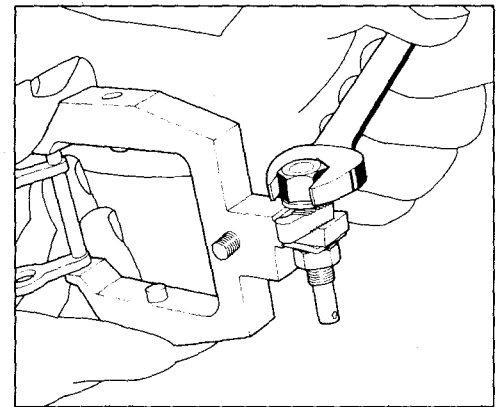

FIGURE 2-32
- Remove cam securing nut, lockwasher and cam nose from cam securing screw. (See figure 2-32). Then, remove cam securing screw with adjusting nut from the fulcrum lever assembly.